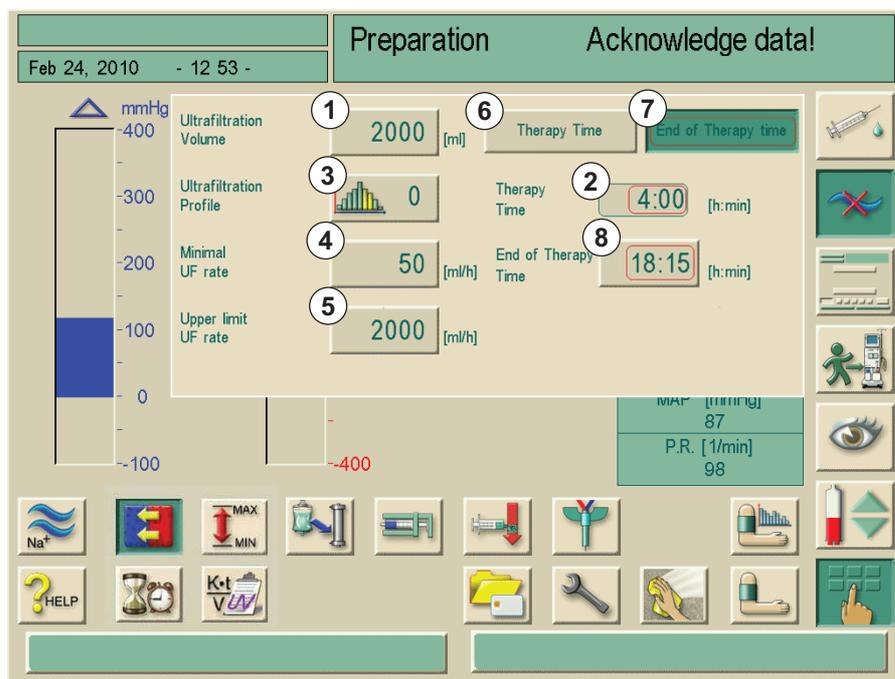

Fig. 5-15 “Ultrafiltration parameters” screen
1. Touch the buttons 6 and 2 in Fig. 5-15.
1. Touch the buttons 7 and 8 in Fig. 5-15.